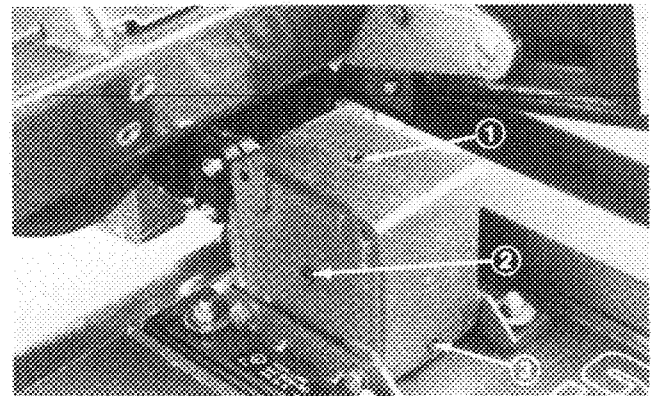

Figure 12
2. Remove check plug from side of gear box (Fig. 12) and make sure lubricant is up to bottom of hole. If level of lubricant is low, remove fill plug on top of gear case and add enough lubricant to bring it up to bottom of hole in side.